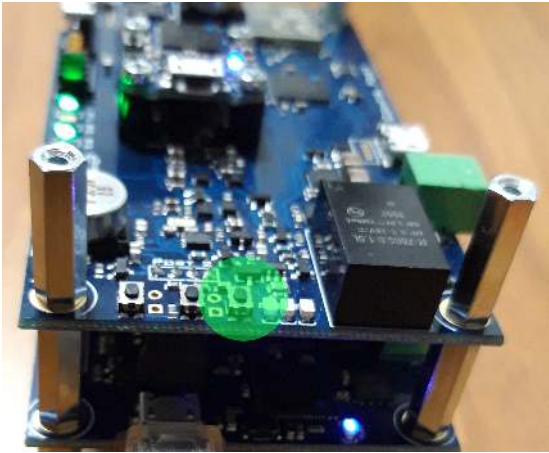

Figure 28: Highlighted *YButton*
2. Don't touch anything but hold on the Ybutton during 5 seconds (see figure 28).